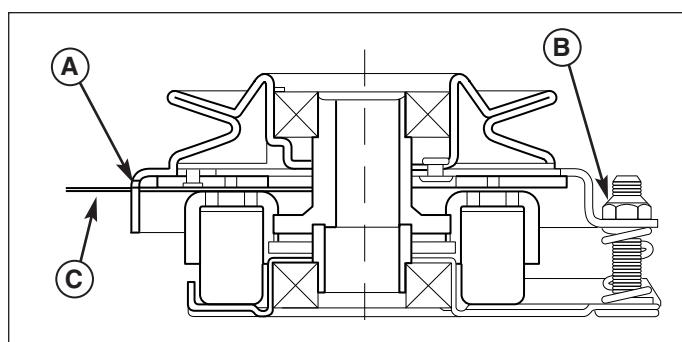

Figure 33. Adjust PTO Clutch
3. Insert a .012"-.015" (2.5-4mm) feeler gauge (C) through each window, positioning the gauge between the rotor face and the armature face as shown in Figure 33.